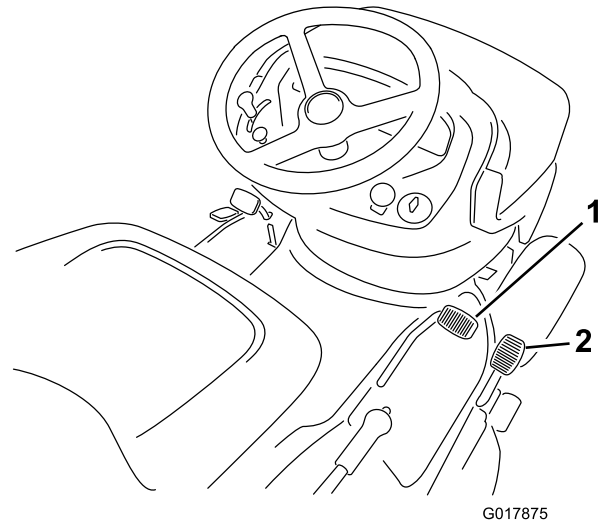

Figure 14
- Place your foot on the forward speed pedal and slowly press on the pedal to move forward (Figure 14).
- Place your foot on the reverse speed pedal and slowly press on the pedal to move backward (Figure 14).